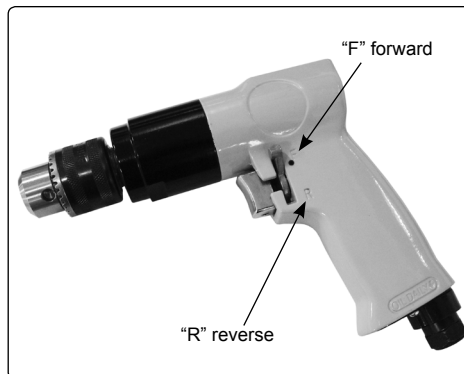

fig.3
- 4.3.2. Ensure the drill is turning in the forward direction by checking that the lever adjacent to the trigger is next to the forward symbol (F). If not, push the lever over to the forward position (fig.3).
- 4.3.9. If the bit jams in the workpiece or if the drill stalls, release the trigger switch immediately. Remove the bit from the workpiece and determine the reason for jamming. It may be necessary to reverse the direction of rotation by moving the lever adjacent to the trigger to the reverse (R) position (fig.3).